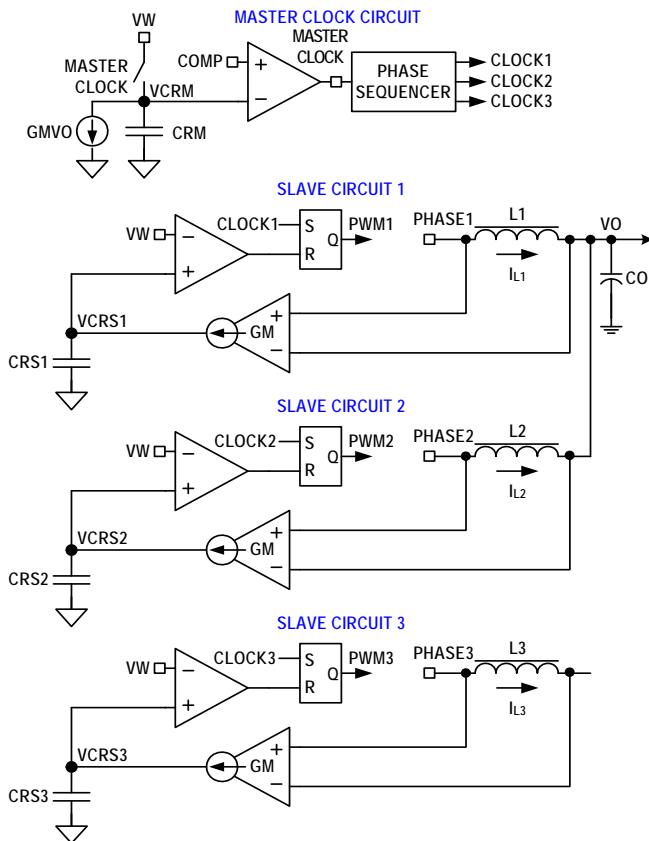
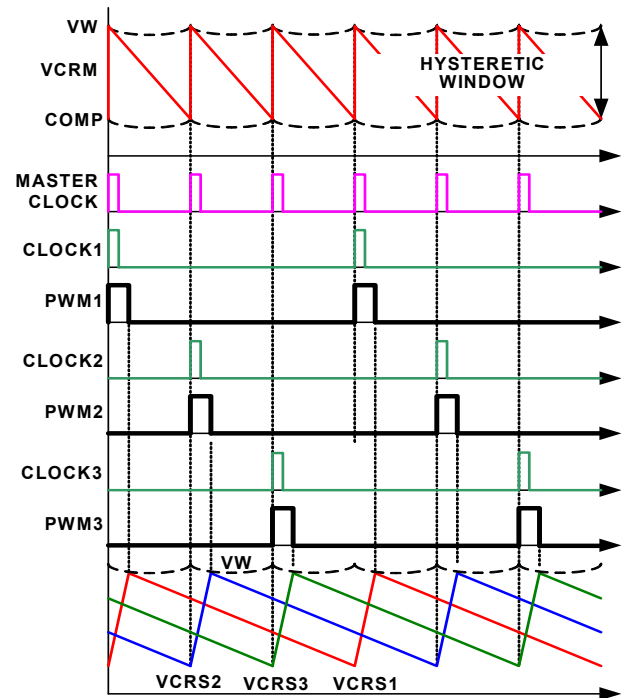

FIGURE 8. R3™ MODULATOR CIRCUIT
FIGURE 9. R3™ MODULATOR OPERATION PRINCIPLES IN STEADY STATE
The ISL6377 is a multiphase regulator implementing two voltage regulators, CORE VR and Northbridge (NB) VR, on one chip controlled by AMD's™ SVI2™ protocol. The CORE VR can be programmed for 1-, 2-, 3- or 4-phase operation. The Northbridge VR can be configured for 1- or 2-phase operation. Both regulators use the Intersil patented R3™ (Robust Ripple Regulator) modulator. The R3™ modulator combines the best features of fixed frequency PWM and hysteretic PWM while eliminating many of their shortcomings. Figure 8 conceptually shows the multiphase R3™ modulator circuit and Figure 9 shows the operation principles.